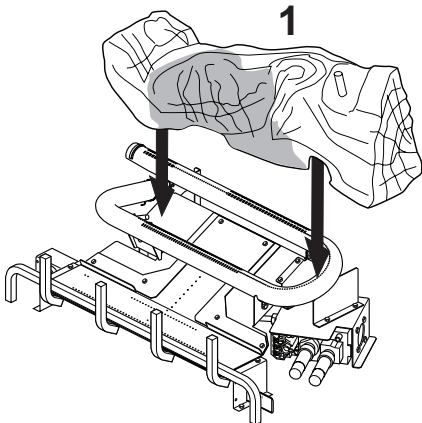

Figure 23 - Installing Log #1
1. Place rear log on base assembly as shown in Figure 23. The log will fit over right end of burner and rest in the middle of U-burner.